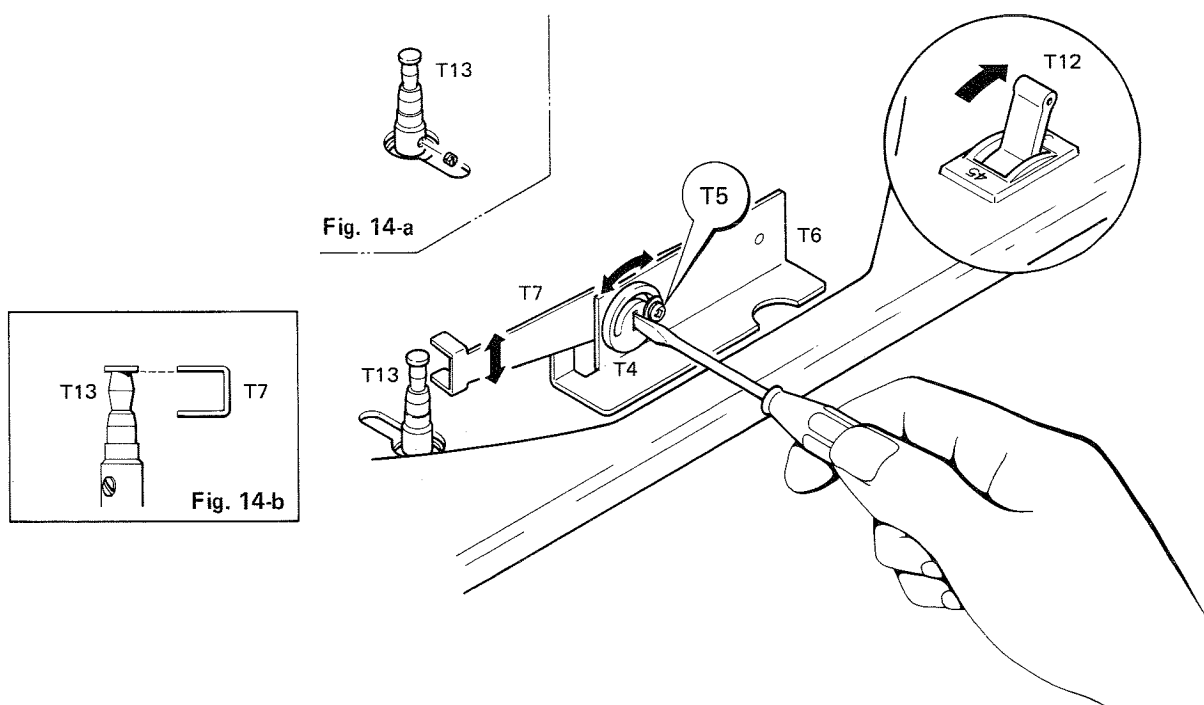

Fig. 14
1. Remove the screw (headless screw  $3\phi \times 2$  mm) fastening the pulley (T13) to the motor (T14). (cf. Fig. 14-a)
2. Adjust the speed select arm (T7) so that it corresponds to the pulley (T13) in height as shown in Fig. 14-b. To make this adjustment, loosen the pan head screw (3 x 6) (T5) on the speed select base and move the eccentric pin (T4). (cf. Fig. 14)